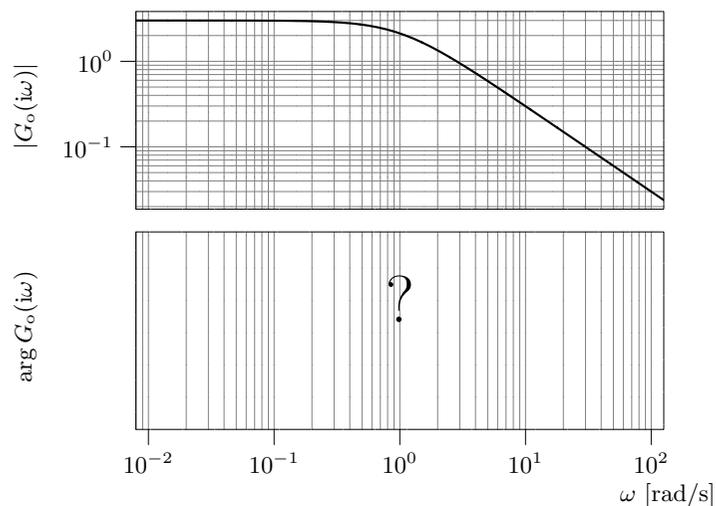

Figure 5.12a
5.12 a) A plot of the amplitude curve of a stable transfer function $G_o(s)$ is given in Figure 5.12a. Choose one of the following alternatives regarding the stability of the closed loop system $\frac{G_o}{1 + G_o}$: